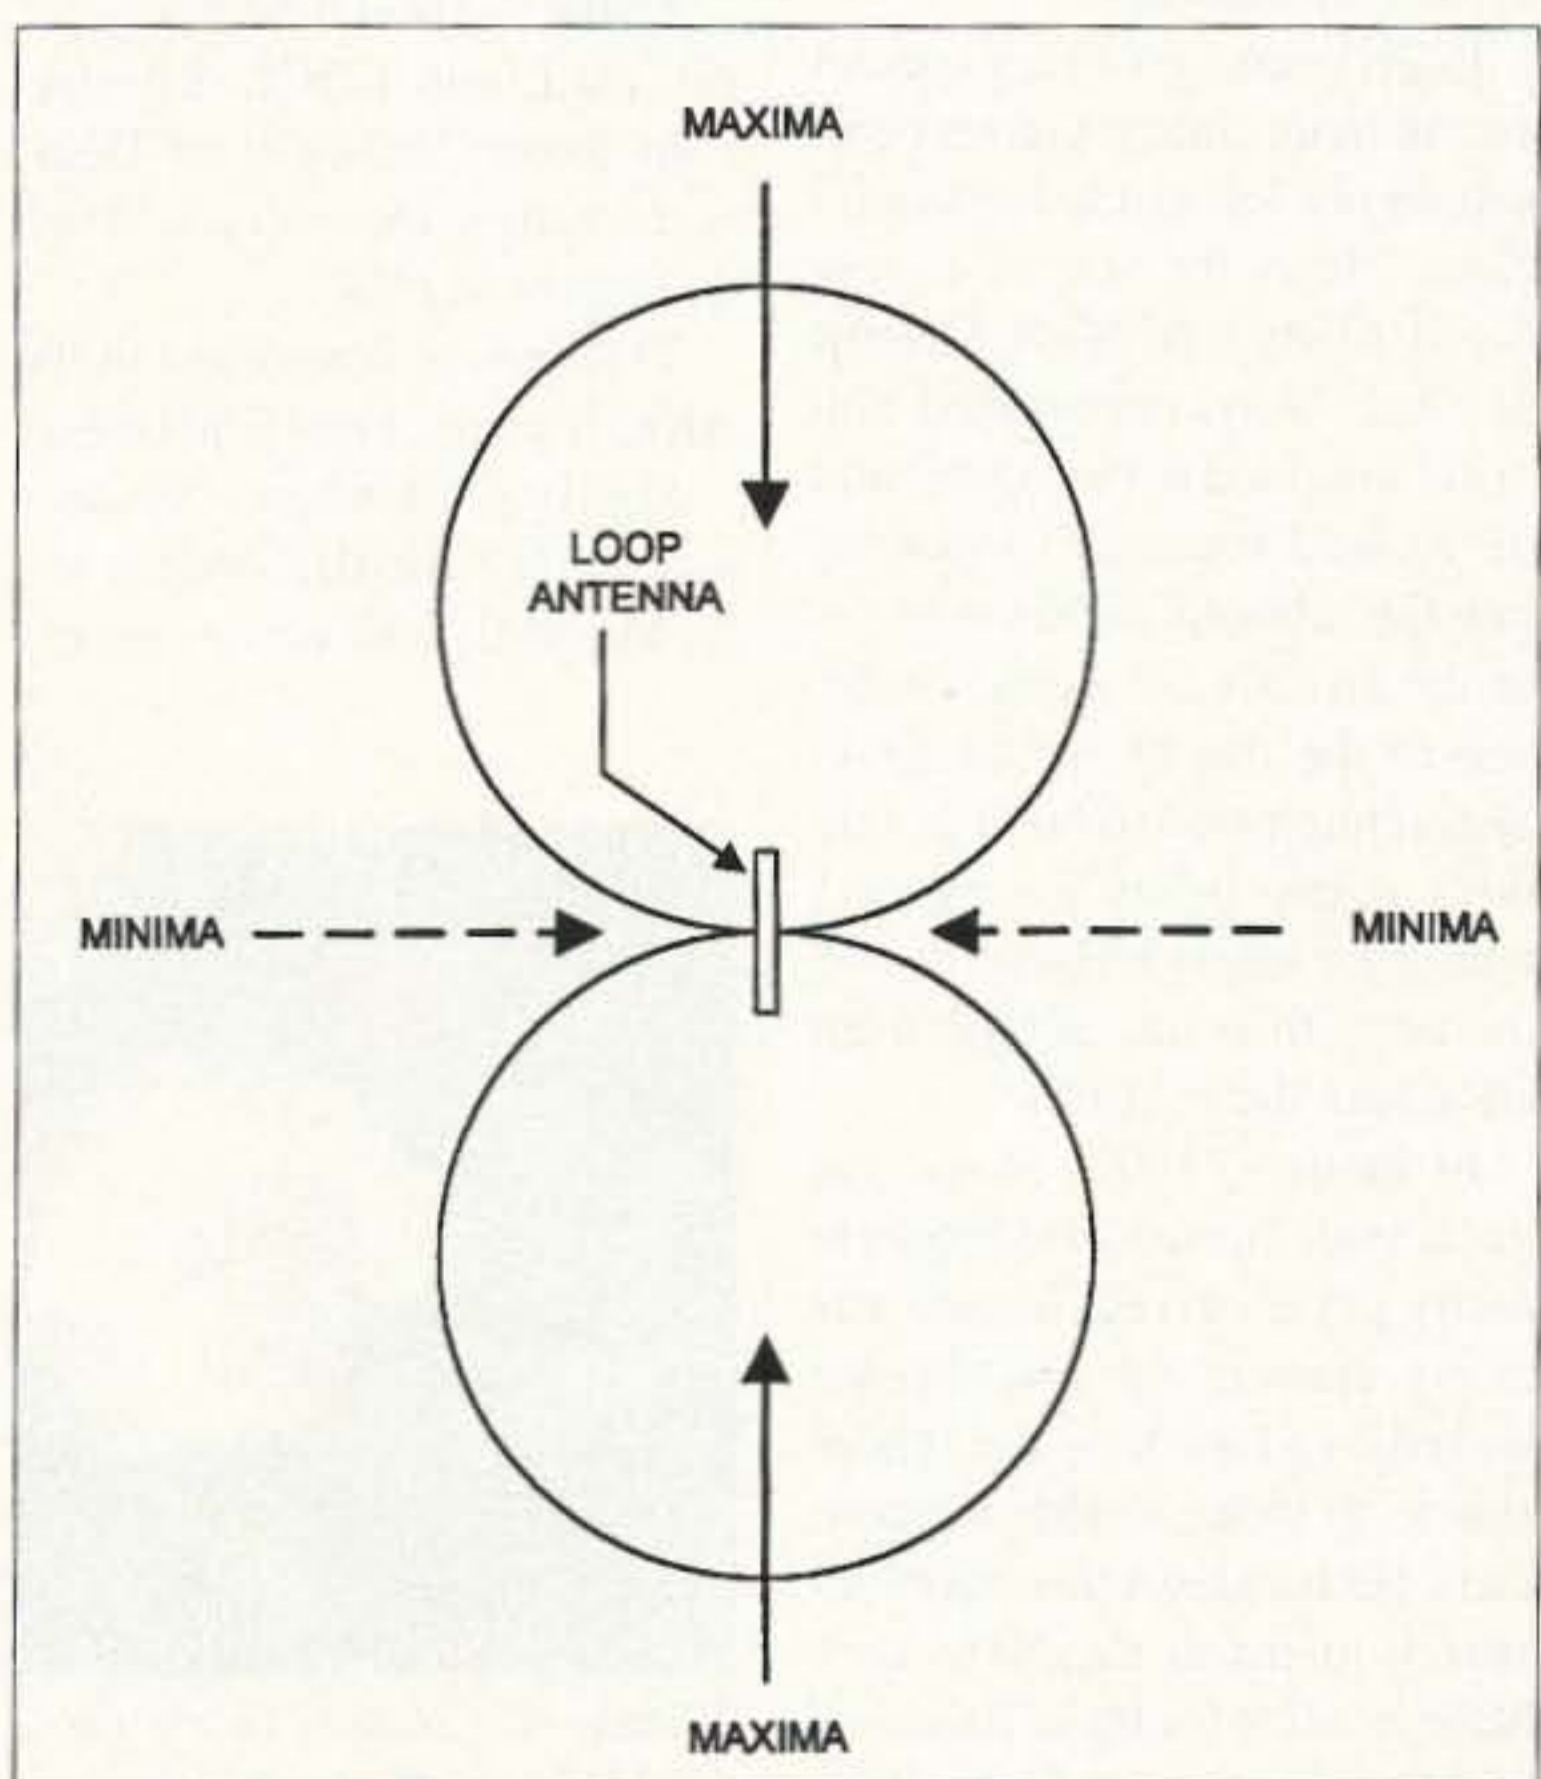

Fig. 3. Pattern of the small loop antenna.
**Fig. 3** shows the pattern of the small loop antenna. Note that the maxima (i.e., direction of maximum reception) occurs off the ends of the antenna, while the minima (nulls) are perpendicular to the plane of the loop. The nulls can be up to about -60 dB compared to the minima in practical antennas, although some of the theory books claim